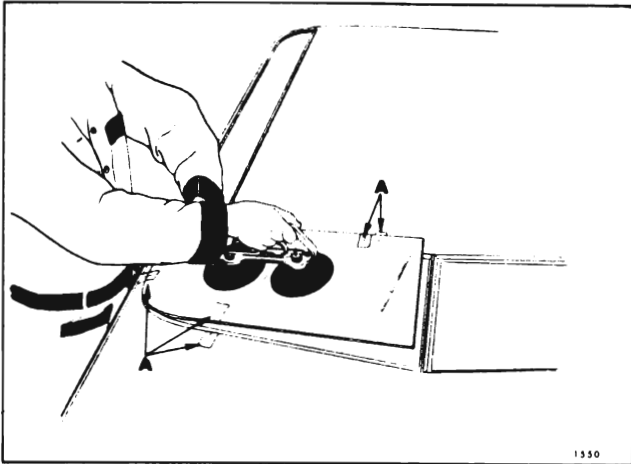

Fig. 4-16—Glass Suction Cup Usage
4. If the front skylight is being installed, attach glass handling suction cups to outer surface of glass and position glass in body opening (See Figure 4-16).
7. After final adjustments have been made and glass is in proper position, apply pieces of masking tape over edges of glass and body (see View "A" in Fig. 4-16 or 4-18 depending on window being installed). Tape on glass can be aligned with tape on body to guide glass into opening during installation.
NOTE: When installing front skylight, position outer lower corner first as shown in Figure 4-16, and lower glass into opening.